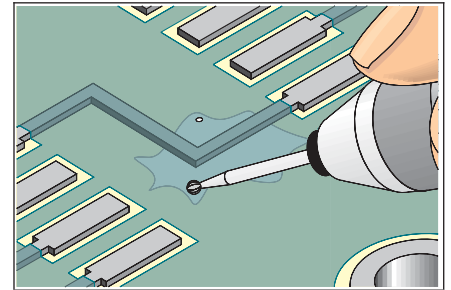

Figure 1 Drill into the delamination blister
2. Drill into delamination blister with the dental style drill and ball mill. Drill in an area clear of circuitry or components. Drill at least two holes opposite each other around the perimeter of the delamination. (See Figure 1.) Brush away all loose material.